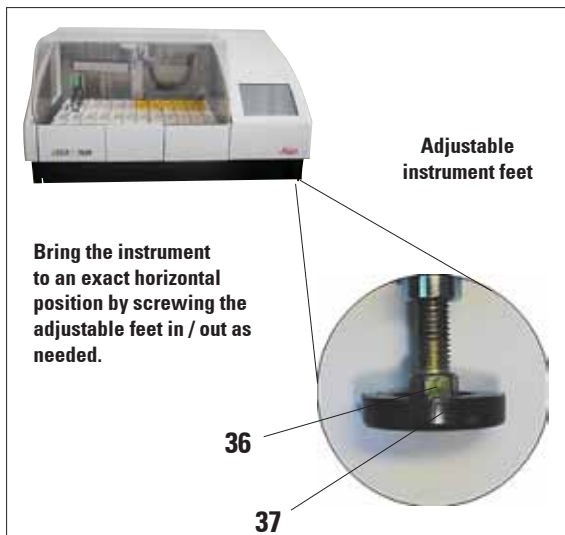

Fig. 21
- Otherwise, use the box level (standard delivery) to determine the highest point of the bench. Next, the instrument foot located at the highest point of the bench must be screwed in almost completely (see Fig. 21).